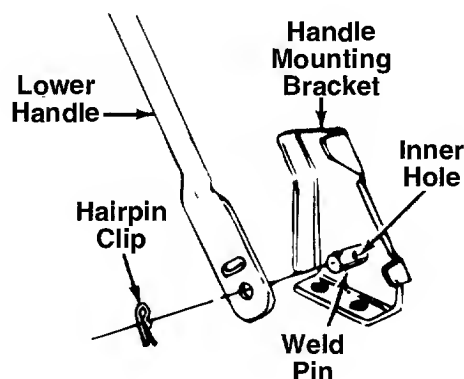

FIGURE 2.
- Remove the hairpin clips from the outer hole in the weld pins on the handle mounting brackets. Place the hairpin clips in the **inner** hole. See figure 2.